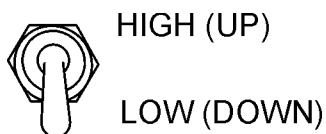

Figure 42. Engine Speed Switch
3. Set the engine speed switch (Figure 42) to the idle (low) position.